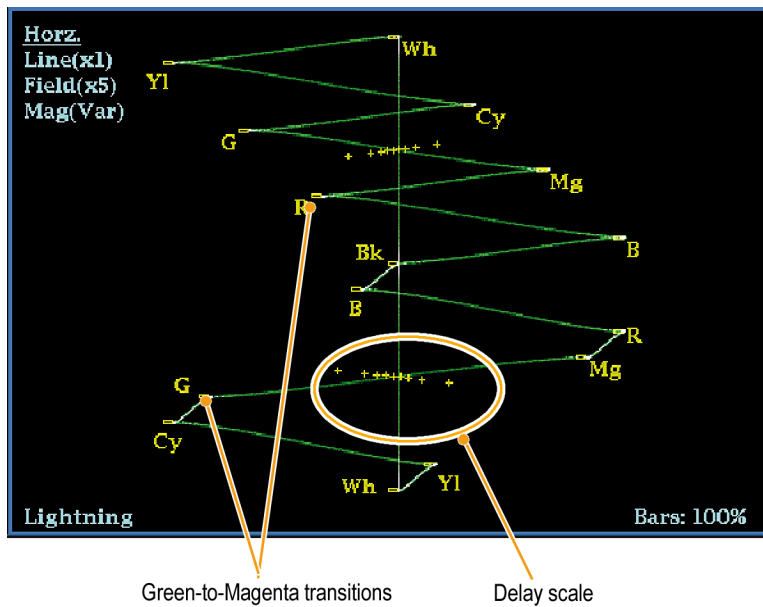

Figure 40: Determining transition intersections in the Lightning display
7. Determine where transitions intersect the delay scales and derive the timing error in nanoseconds, as deflected from the center mark, using the following guidelines. (See Figure 40.)